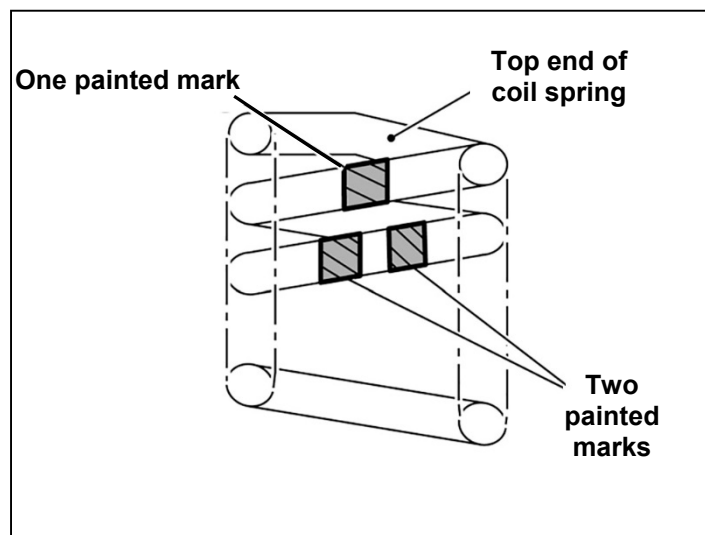

Figure 17
- a. Make sure the orientation of the coil spring is as shown in Figure 17: A single painted mark is above the two painted marks.